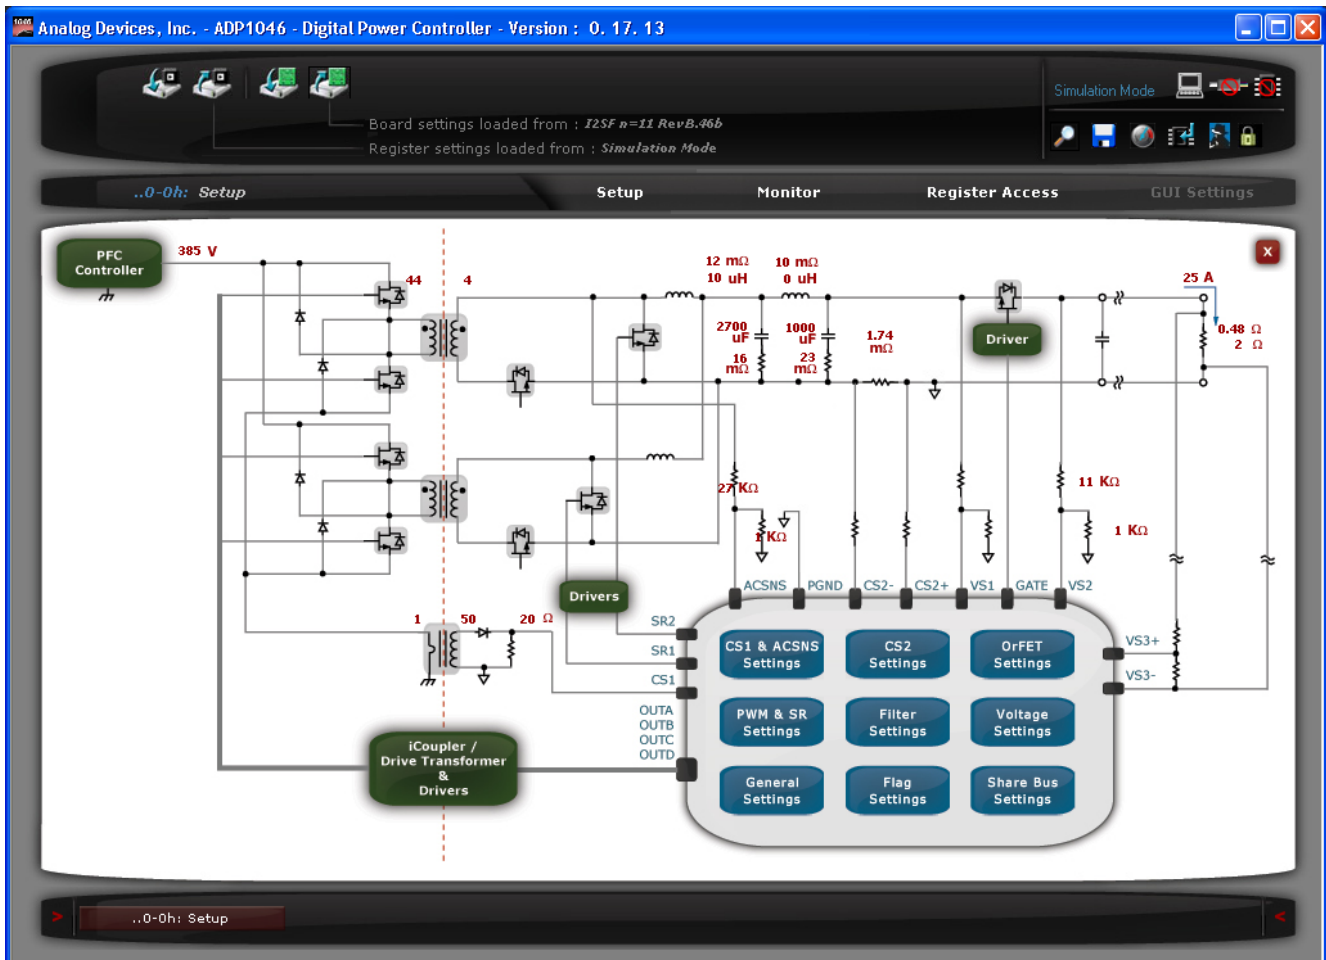

Figure 9. Main Setup Window of the ADP1046 GUI
Each **ADP1046** chip has trim registers for the temperature, input current, output voltage, output current, and ACSNS. These can be configured during production and are not overwritten whenever a new register settings file is loaded. This is done to retain the trimming of all the ADCs for that corresponding environmental and circuit condition (for example, component tolerances and thermal drift). A guided wizard called the **Auto Trim** can be used to trim the previously mentioned quantities of the trim registers (for example, temperature, input current, output voltage) so that the measurement value matches the values displayed in the GUI, which allows ease of control through the software. Click **Voltage Settings** or **CS2 Settings** in the **Setup** window (see Figure 9) to access the **Auto Trim** wizard.
- The software should report that the **ADP1046** has been located on the board. Click **Finish** to proceed to the main software interface setup window (see Figure 9). The serial number shown next to the checkbox (see Figure 7) indicates the USB dongle serial number. The windows also displays the device I²C address.
The board settings can be accessed from the main setup window (see Figure 9).
4. The OrFET power-on is dependent on the voltage difference of VS1 and VS2. If the PSU is standalone, the OrFET gate turns on at the beginning of the soft start ramp when VS1 – VS2 is less than or equal to the programmed threshold in the GUI (see the **OrFET Settings** window in the GUI, which is accessed by clicking **OrFET Settings** in Figure 9). The output regulation is from VS3, and the normal filter is in operation.
When a flag is triggered, the ADP1046 state machine waits for a programmable length of debounce time before taking any action. The response to each flag can be programmed individually. Click **Setup** and then **Flag Settings** (see Figure 9) to configure the flags. The **Flag Settings** window shows all the